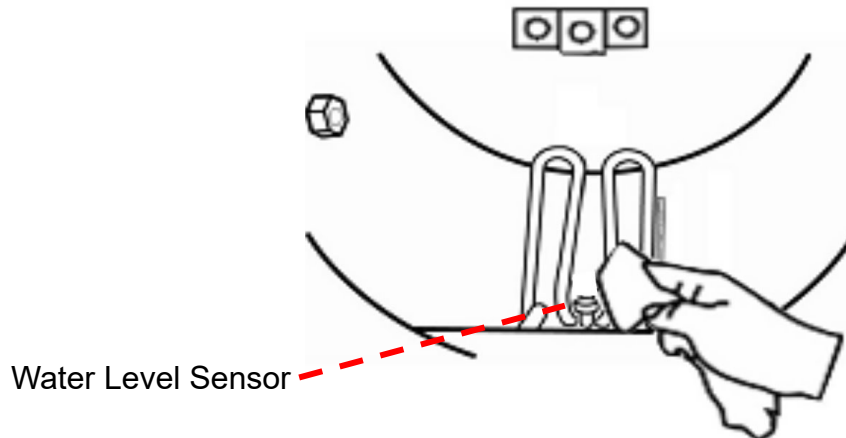

Figure 94
- Use the non-corrosive cleaner and stiff bristled brush or sponge to clean the water level sensor at the rear of the chamber as Figure 94.